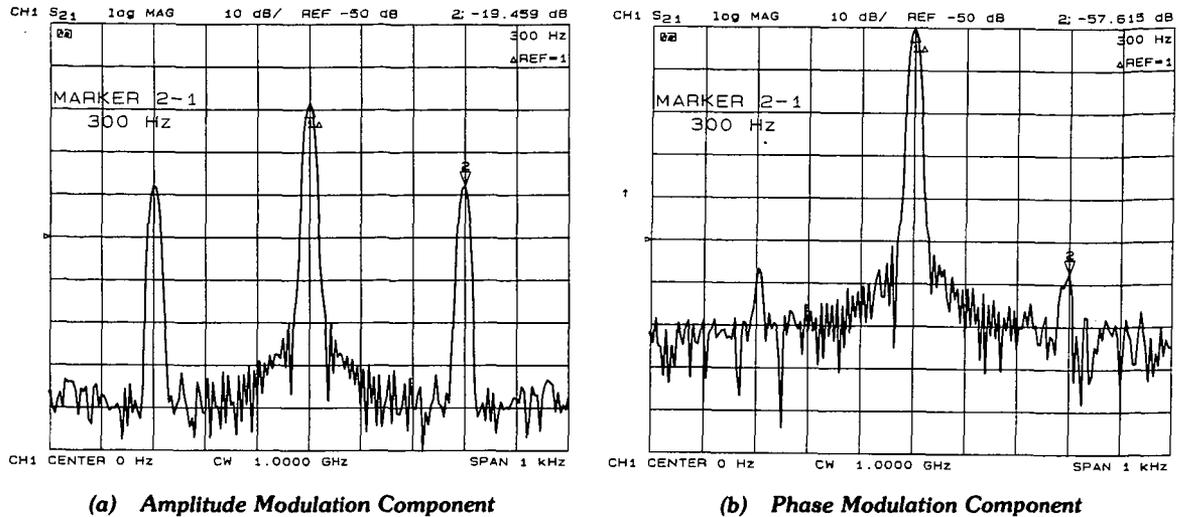

Figure 8-18. Separating the Amplitude and Phase Components of DUT-Induced Modulation
[AMPLITUDE] displays only the amplitude modulation (AM), as illustrated in Figure 8-18 (a).
[PHASE] displays only the phase modulation (PM), as shown in Figure 8-18 (b).